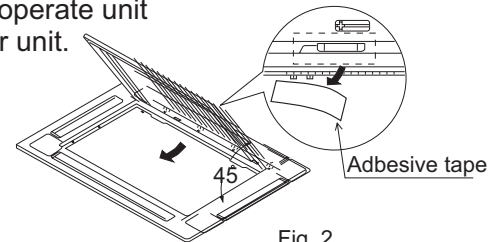

Fig. 2
- Lift it up for about 45 degree and remove it from ornament. Tear off adhesive tape fixing air filter on the back of the air inlet grill. (Refer to Fig. 2)